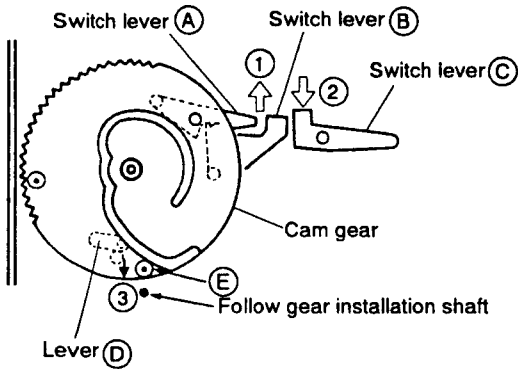

Fig. 11
② Move switch levers **A** and **B** (Fig. 11) in the direction of arrow ① (SW is ON), switch lever **C** in the direction of arrow ② and lever **D** in the direction of arrow ③.
② Install the cam gear when the cam gear comes to the position as shown in Fig. 11.